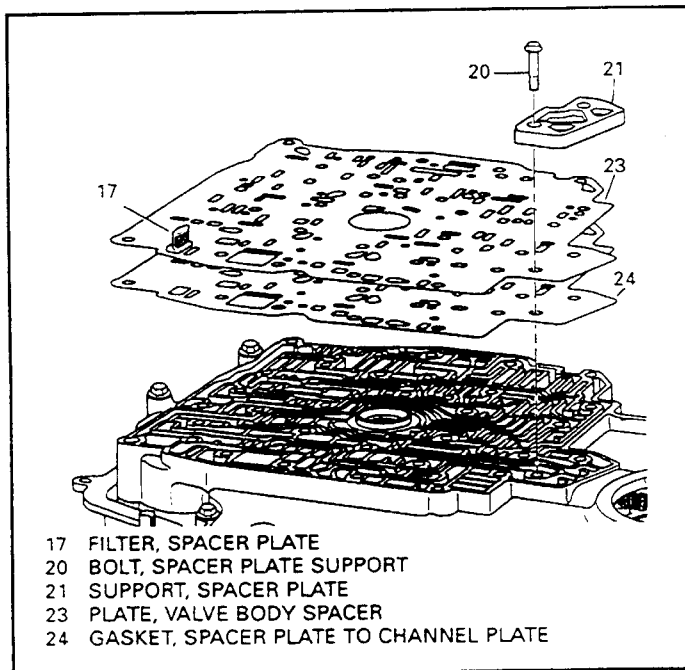

Figure 59
45. Remove the two spacer plate support bolts, as shown in Figure 59.
46. Remove the spacer plate with the spacer plate filter attached as shown in Figure 59.
47. Remove and discard the spacer plate to channel plate gasket (See Figure 59).